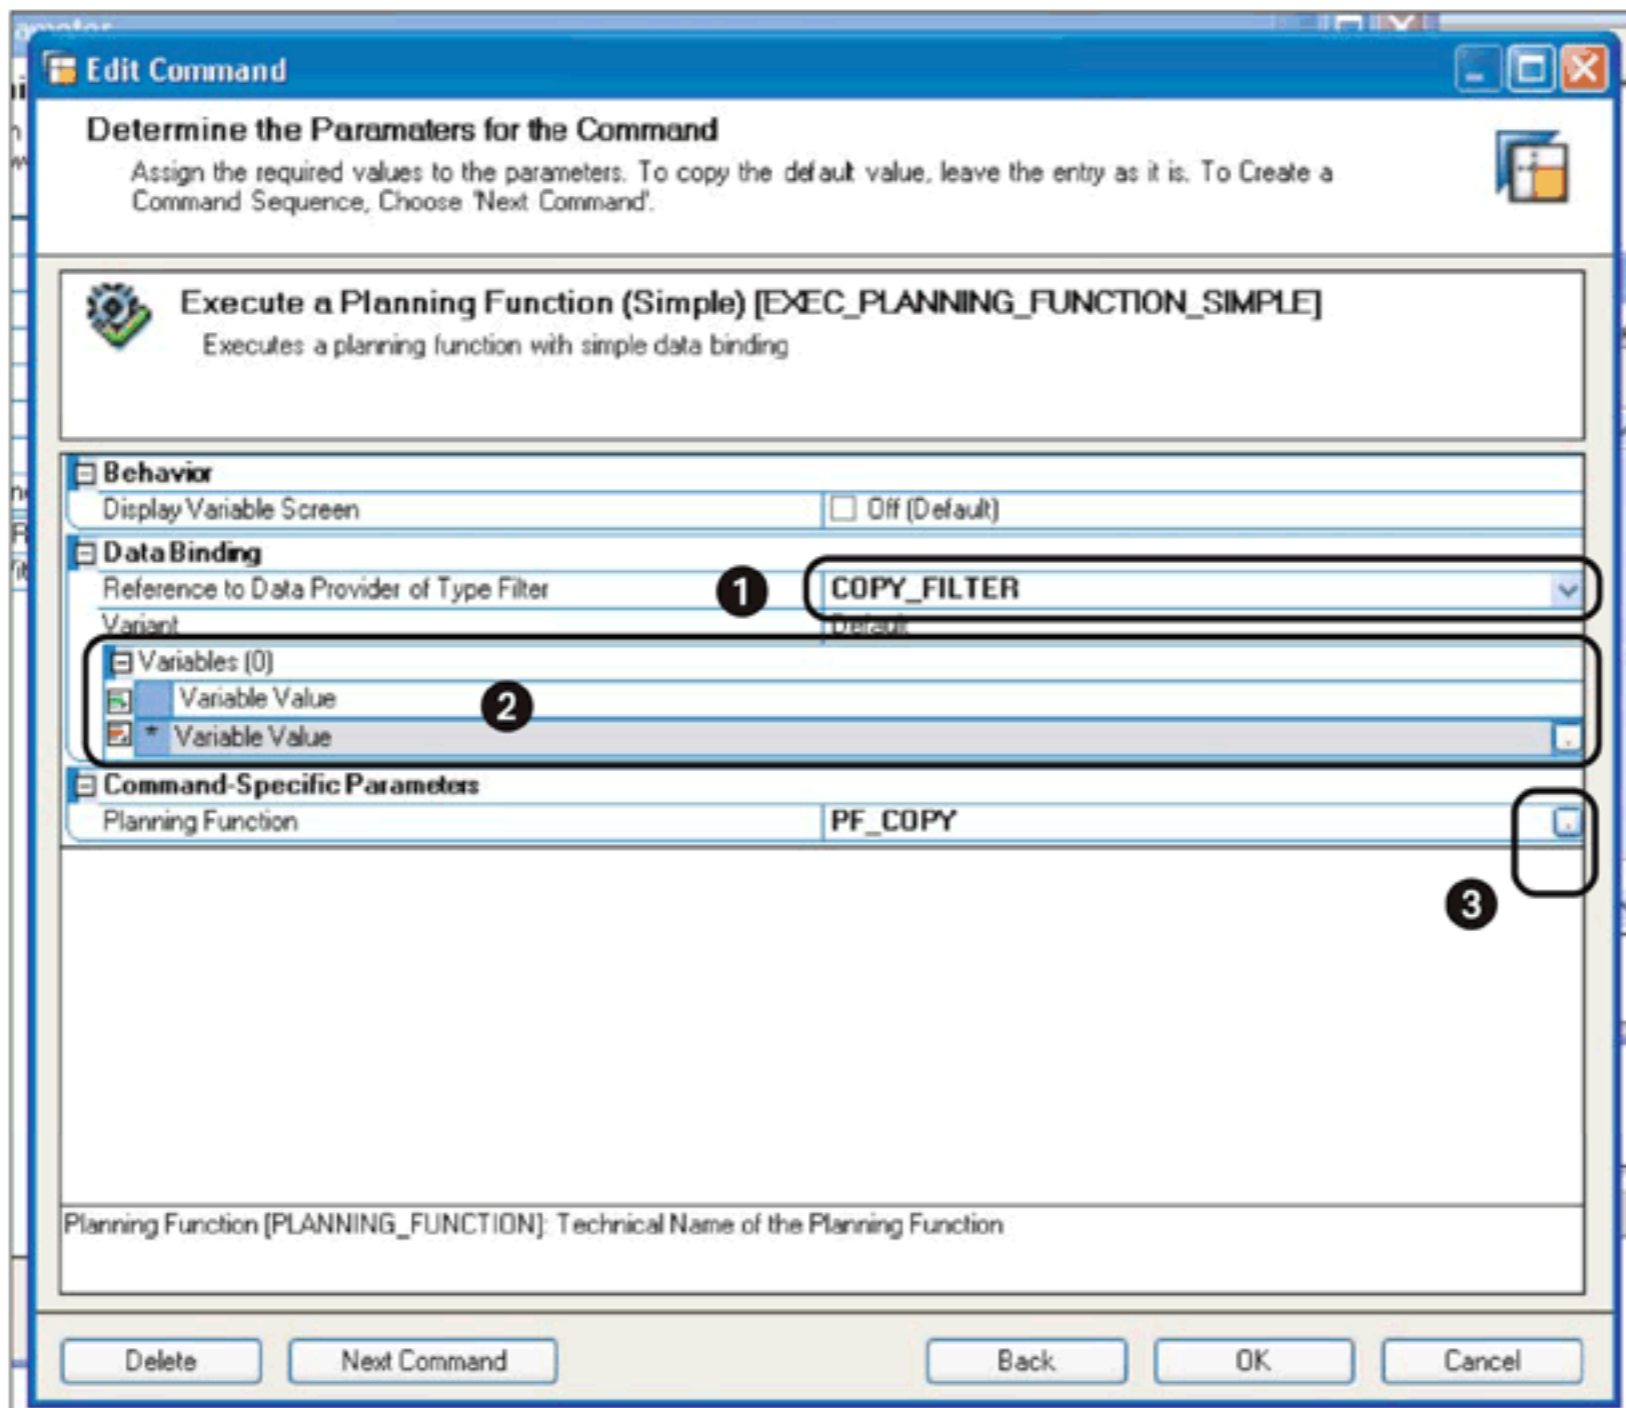

Figure 12.86 Define Parameters for the Command
Define the parameters for the planning function command on the next screen (Figure 12.86). The most important setting is to define the filter for the planning function. Select the COPY_FILTER data provider, which is based on a filter (1). You can also maintain any default values for the variables used in the planning function under the VARIANT area of the screen (2). Finally, assign the required planning function to the command using the selection help (3). Click on OK to complete the command setting, and then click on OK on the button definition screen to confirm the definition.